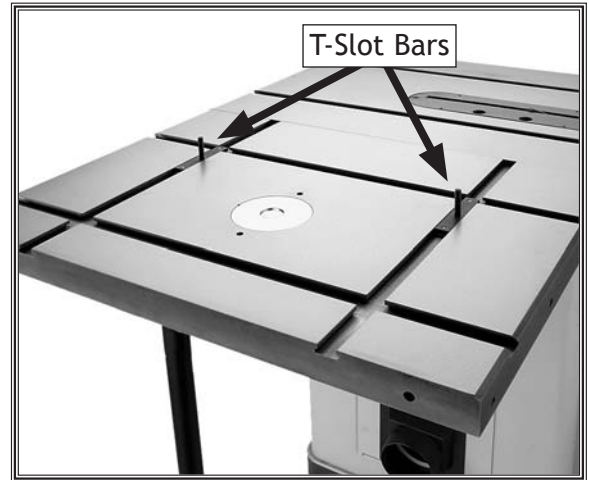

Figure 11. T-slot bars installed for one of four orientations.
9. Slide the two T-slot bars into the T-slots of the router table (see **Figure 11**).